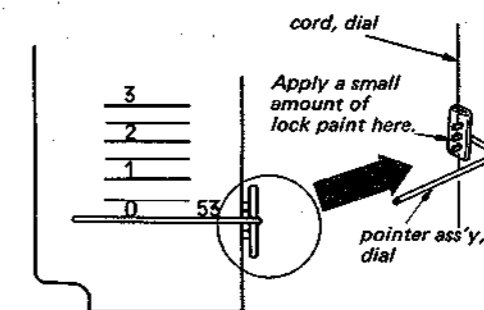

Fig. 2-8.
4. Set the dial pointer ass'y on the dial cord so that the dial pointer places on the mark "0" of the logging scale, and fix the dial pointer ass'y on the dial cord with a small amount of lock paint as shown in Fig. 2-8 below.